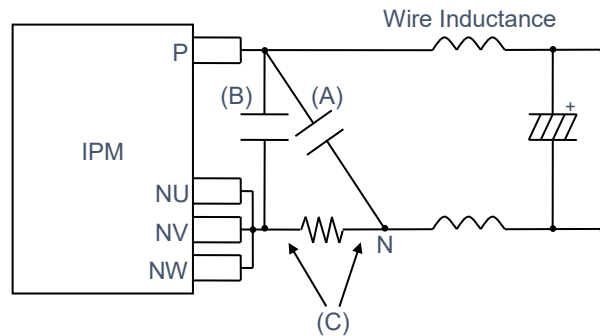

Figure 3.5.1 Recommended Snubber circuit location
- (D) Wiring to the CIN pin should be divided near the shunt resistor terminal and as short as possible.
- (E) Place snubber capacitor between the P pin and point N and closely to terminals.
- (F) Wiring should be as short as possible. Floating control supply wire potential fluctuates between the P pin and the GND at switching. Therefore, it may cause the malfunction if low potential wires (e.g. control input pin, control supply) are located near or cross these switching wires. Please pay attention particularly when using multi layered PCB.
- (G) Bootstrap negative electrodes should be connected to the U, V, W pins directly and separated from the main output wire.
- (H) Wiring should be as short and as thick as possible.
- (I) Wiring should be as short as possible in order to prevent the malfunction due to noise.
- (J) Connect CIN filter's capacitor to control GND (not to power GND).
- (K) Capacitor and Zener diode should be located closely to the LVCC and GND pins.
- (L) Capacitor should be located closely to the HVCC pin.
In order to protect IPM from extra surge, the wiring length between the smoothing capacitor and the P pin-N points (shunt resistor terminal) should be as short as possible. Also, from 0.1 μ F to 0.22 μ F snubber capacitor should be mounted in the DC-link and near to the P pin and N points. There are two positions ((A) or (B)) to mount a snubber capacitor as shown in Figure 3.5.1 Recommended Snubber circuit location.